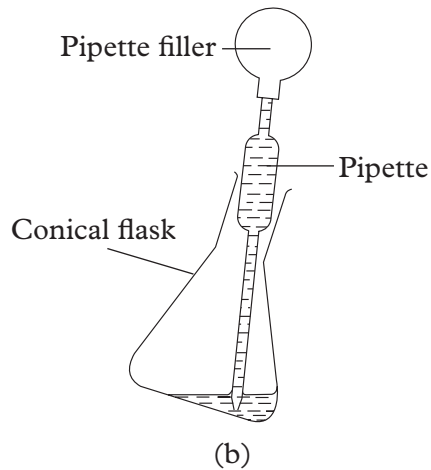

Fig. 7.3: Correct method of filling a pipette with a filler
- Suck the solution up the pipette well above the calibration mark. It is recommended to suck the solution from a tilted conical flask to avoid air bubbles entering into the pipette as shown in Fig. 7.3 and to use a pipette filler to fill the pipette.